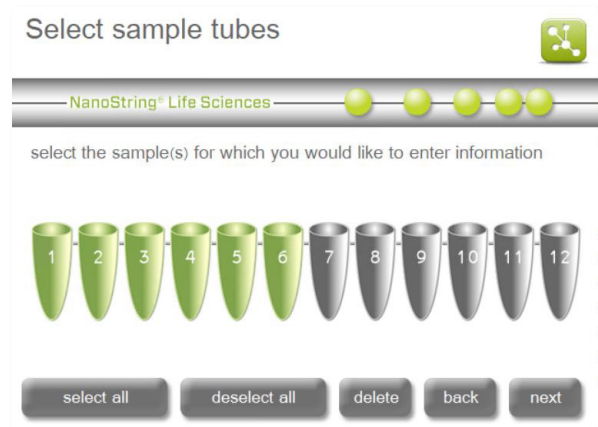

Figure 15: The 'Select sample tubes' screen.
- The 'Select sample tubes' screen will appear (**Figure 15**). Select the sample positions that will be processed. Green tubes will be processed, and grey tubes will not be processed. If processing fewer than 12 tubes, begin with tube 1. Press **next**.